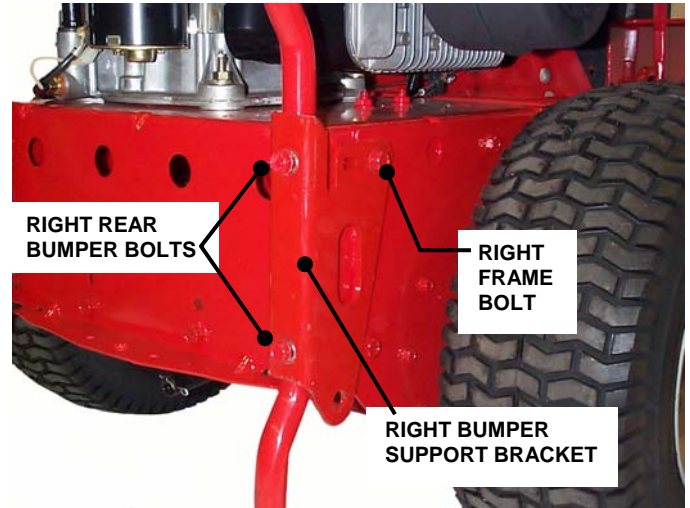

FIGURE 1.2
- A. Remove two right bumper bolts and the right frame bolt located at the top rear of the main frame. See Figure 1.2. Align holes in right bumper support bracket, bumper and frame. Reinstall same bolts. Tighten the two Bumper bolts before tightening the frame bolt.